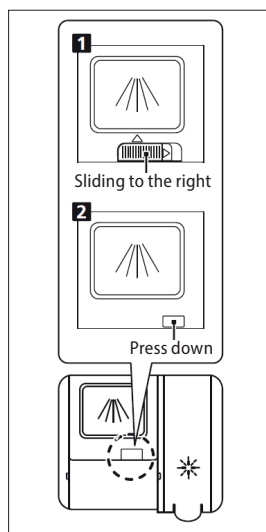

Fig. 7
- Method 2: Open the lid by pushing the release latch. (Fig. 7).